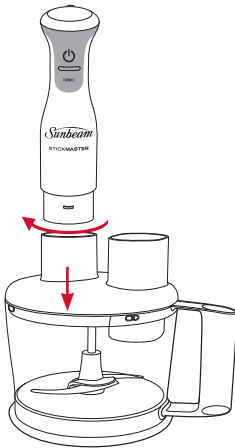

Figure 11
5. Insert the motor housing into the processing bowl lid and twist the wand in a clockwise position until you hear a click. See Figure 11.